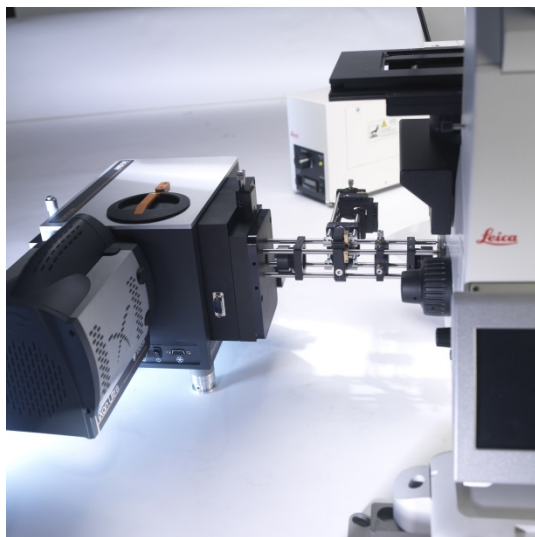

Figure 15: Coupling between spectrograph and microscope using a cage system.
- Coupling to side port using a cage system. This allows for the greatest flexibility in terms of experimental arrangements. An example of an arrangement using a cage system is illustrated in figure 15.